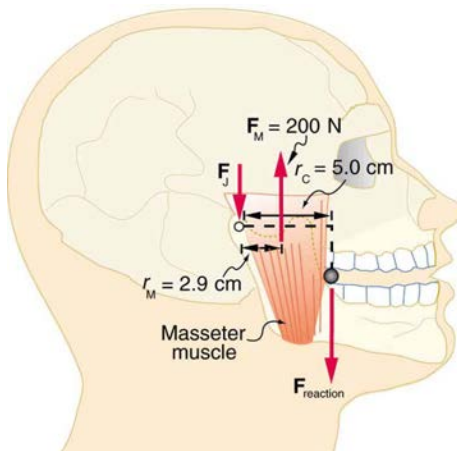

Figure 9.44 A person clenching a bullet between his teeth.
35. Unlike most of the other muscles in our bodies, the masseter muscle in the jaw, as illustrated in **Figure 9.44**, is attached relatively far from the joint, enabling large forces to be exerted by the back teeth. (a) Using the information in the figure, calculate the force exerted by the teeth on the bullet. (b) Calculate the force on the joint.